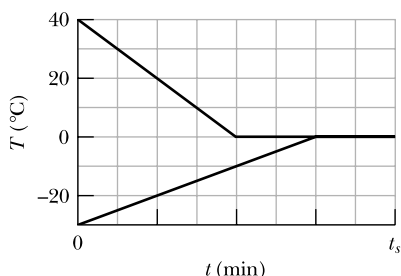

Figure 18.12 Problem 38.
**38 M** A 0.530 kg sample of liquid water and a sample of ice are placed in a thermally insulated container. The container also contains a device that transfers energy as heat from the liquid water to the ice at a constant rate  $P$ , until thermal equilibrium is reached. The temperatures  $T$  of the liquid water and the ice are given in Fig. 18.12 as functions of time  $t$ ; the horizontal scale is set by  $t_s = 80.0$  min. (a) What is rate  $P$ ? (b) What is the initial mass of the ice in the container? (c) When thermal equilibrium is reached, what is the mass of the ice produced in this process?